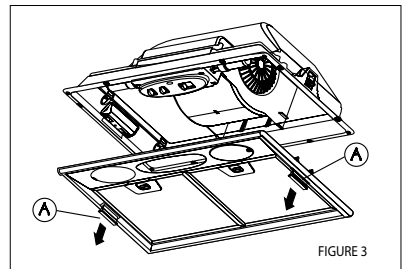

FIGURE 3
3. Remove the bottom of the rangehood by pulling on the grey tabs (A in FIGURE 3) located on either side.
6. Replace the bottom of the rangehood and secure by pushing in the grey tabs (A in FIGURE 3).